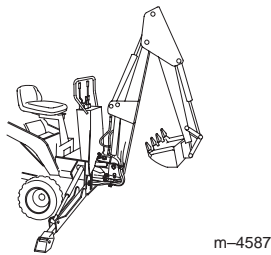

Figure 22
1. Fully raise the boom, retract the dipperstick, and curl the bucket rearward (Fig. 22). Ensure that you center the boom locking pin holes as much as possible.